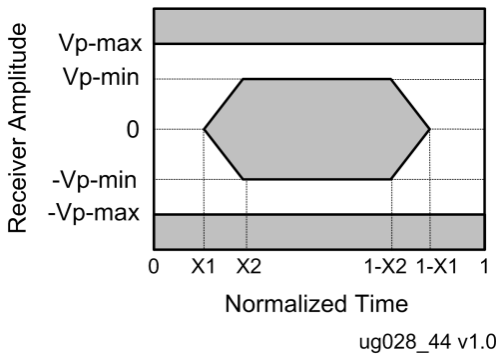

Figure 47: Receiver (RX) Eye Diagram Specification
This section describes the RX eye diagram specifications of the SerDes. The specifications include required input voltage swing and receiver jitter tolerance requirements. The eye template used is shown in “Figure 47: Receiver (RX) Eye Diagram Specification”.